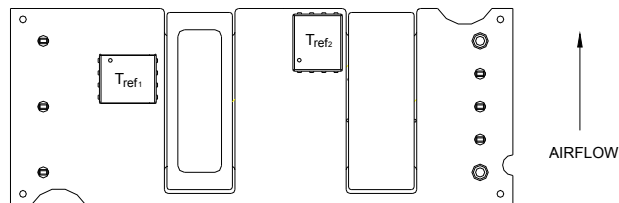
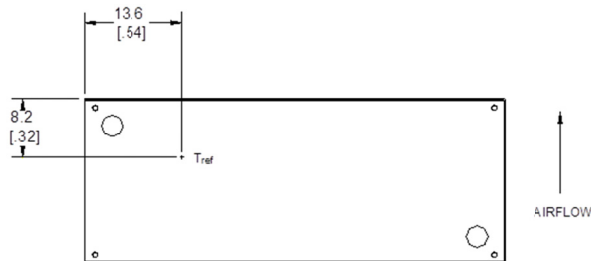

Figure 13. T_{ref} Temperature Measurement Locations for Open Frame Module.
Figure 14. T_{ref} Temperature Measurement Location for Module with Heatplate.
To provide protection under certain fault conditions, the unit is equipped with a thermal shutdown circuit. The unit will shutdown if the thermal reference points, T_{ref} , exceed 135 $^{\circ}$ C (Figure 13, typical) or 120 $^{\circ}$ C (Figure 14, typical) respectively, but the thermal shutdown is not intended as a guarantee that the unit will survive temperatures beyond its rating. The module will automatically restart upon cool-down to a safe temperature.
The thermal reference points, T_{ref1} , and T_{ref2} used in the specifications for open frame modules are shown in Figure 13. For reliable operation these temperatures should not exceed 124 °C & 121 °C respectively
The thermal reference point, T_{ref} , used in the specifications for modules with heatplate is shown in Figure 14. For reliable operation this temperature should not exceed 98°C.